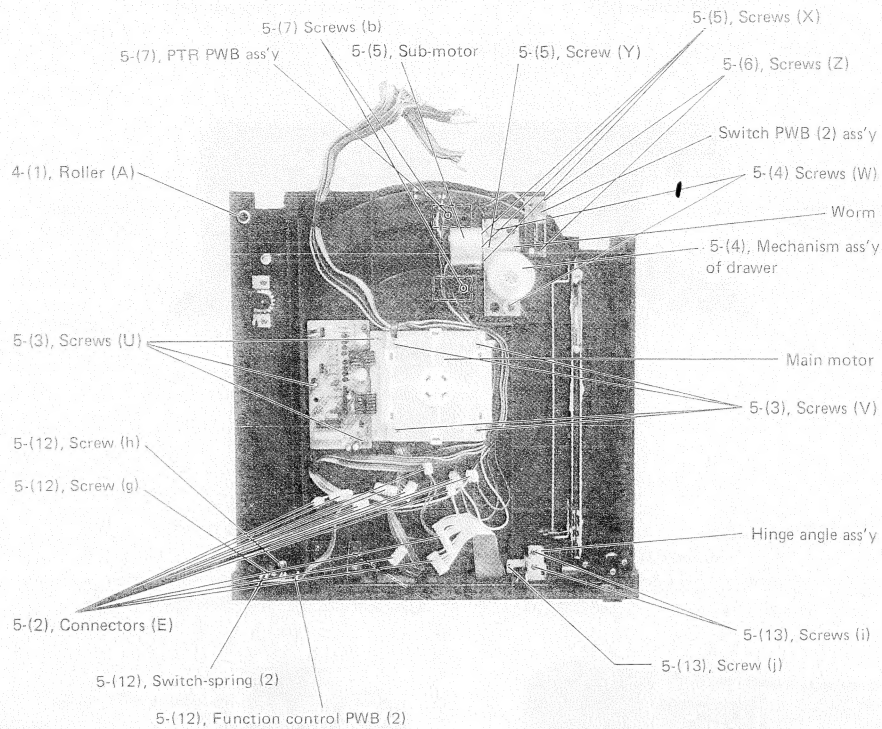

Fig. 13
- 2. Dismount 12 pcs. of connectors (E) from back side of the PWB ass'y so that the circuit PWB ass'y (1) can be dismantled. (See fig. 13)
- (5) Dismount sub-motor. (See fig. 13)
-1. Remove 3 pcs. of screws (X).
-2. Remove a set screw (Y) from worm so that the motor can be dismounted.
- (6) Dismount switch PWB (2) ass'y. (See fig. 13)
- (7) PTR PWB ass'y. (See fig. 13)
- (12) Switch-spring (2) and function control PWB (2) ass'y (See fig. 13)
- (13) Leaf switch ass'y (See fig. 13)